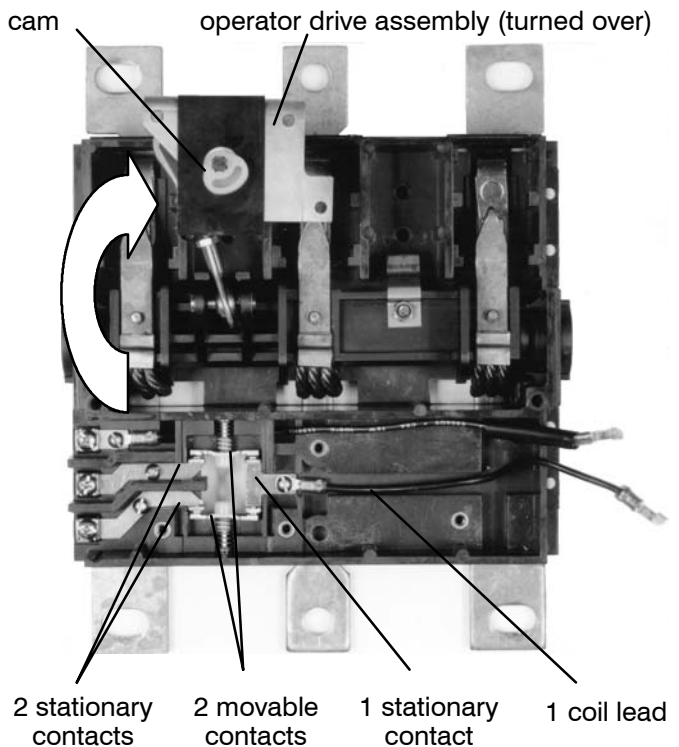

Figure 12. Control contact exposed.
4. Swing the assembly up and away from the base to expose the control contacts. See Figure 12.
5. Disconnect the coil lead from the stationary control contact. Remove the screws and replace the movable and stationary control contacts. Reconnect the coil lead, then tighten screws. See Figures 12 and 13.